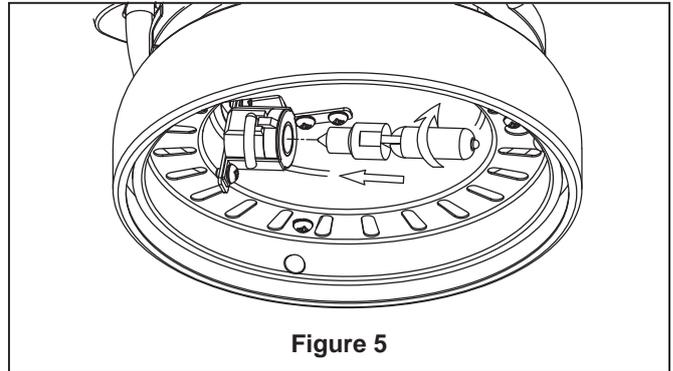

Figure 5
5. Insert light bulb into socket. (Figure 5)
- 5.** Carefully secure the motor assembly onto the mounting slots on ceiling bracket assembly with the upward-clockwise, quarter-turn twist. (Figure 5)